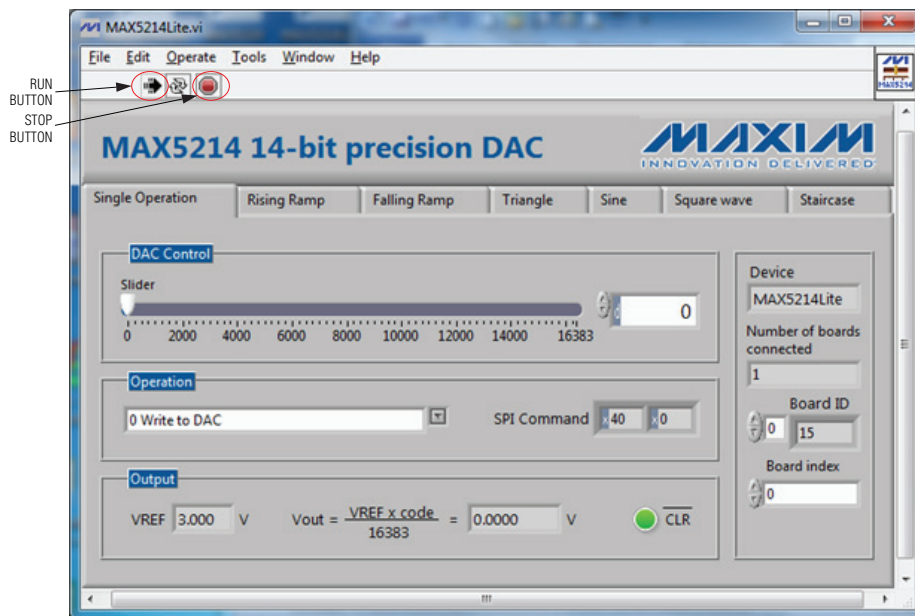
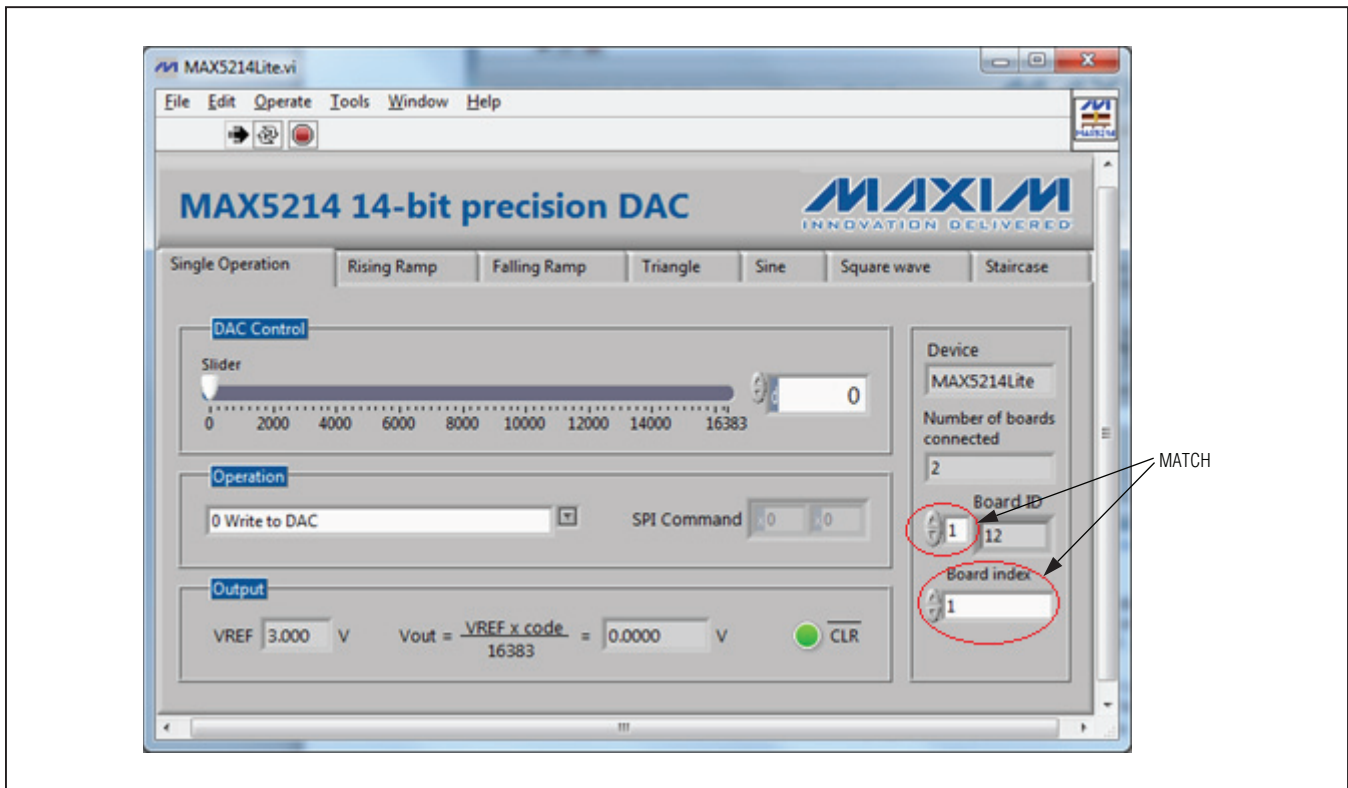

Figure 2. GUI Single Operation Tab
Figure 3. Select the Board Index in the System with Multiple Boards
- 3) Run the MAX5214Lite.exe program. The application's GUI window appears, as shown in Figure 2.
The **Single Operation** tab (Figure 2) is active by default. The application checks all the boards with the USB VID/PID 0x0B6A/0x1234 that connected to the PC and indicates them on the right side of the GUI. Up to 16 boards can be connected to the system. Each board has its own unique board index even though the board ID could be the same. In order to communicate with a particular board, the **Board ID** index should match with the **Board Index** box (Figure 3).